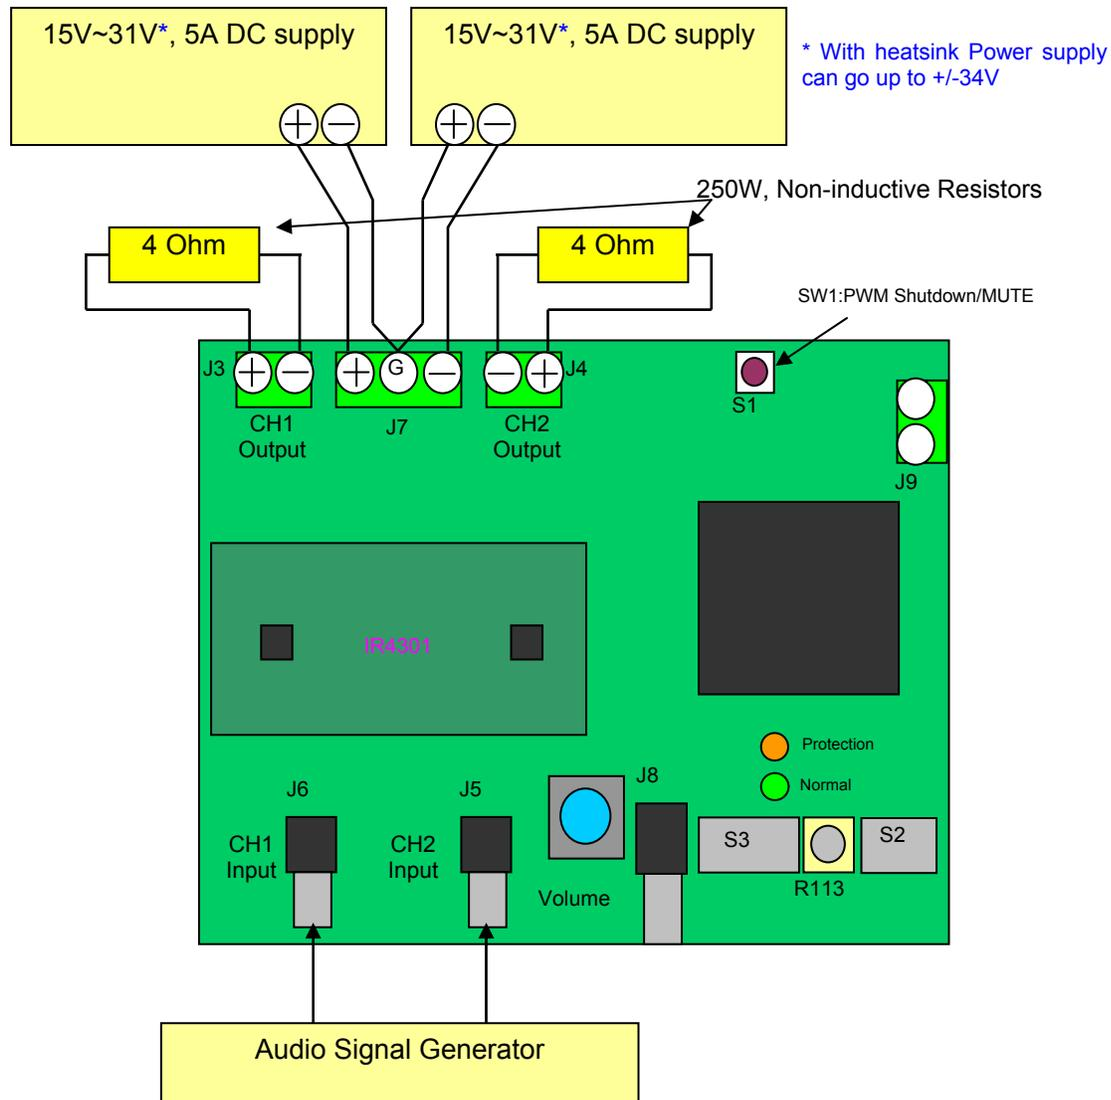

Figure 1 Typical Test Setup
1. Connect 4 Ω -250 W dummy loads to output connectors (J3 and J4 as shown on Figure 1) and parallel it with input of Audio Precision analyzer (AP).
6. Connect the dual power supply to J7. as shown on Figure 1